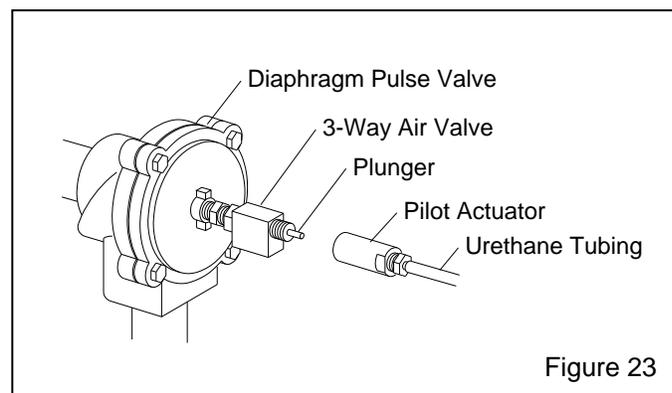

Figure 23
8.15.5 Check the diaphragm pulse valve and actuator assembly. Refer to Figure 23.